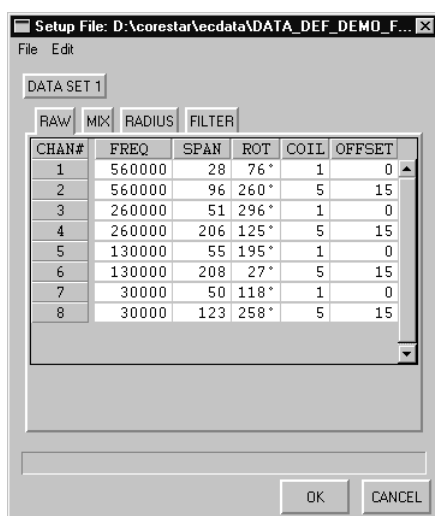

Figure 3-97. Setup Dialog - RAW Tab
The **Setup** dialog contains four (4) tab selections as shown in Figure 3-97. They are: **RAW**, **MIX**, **RADIUS**, and **FILTER**. Each tab and their use are discussed below.
- ❑ **SETUP > RAW Tab:** The **RAW** tab on the **Setup** dialog is shown in Figure 3-97. This dialog displays the channel settings for the currently opened cal group and:
- axial offset, if any, in the **OFFSET** column (*Coil 5 is currently offset by 15 data points in Figure 3-97*);